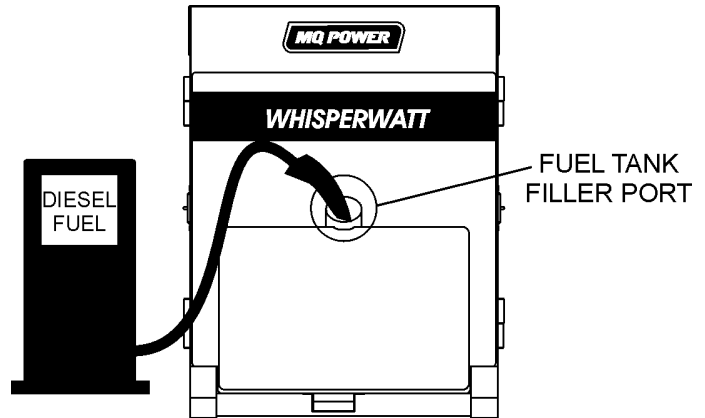

Figure 33. Fueling the Generator
3. Open cabinet doors on the “right side” of the generator (from generator control panel position). Remove fuel cap and fill tank (Figure 33).